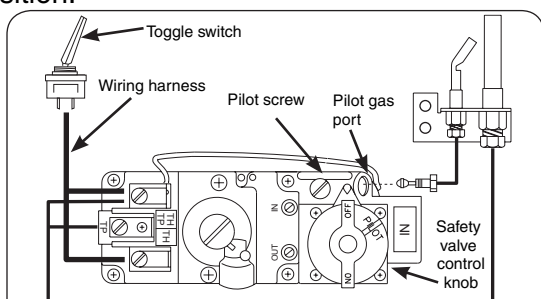

Fig. 19-1
To read the safety valve control knob (Fig. 19-1), read the marking nearest the teardrop-shaped metal pointer.
- b. If adjustment is necessary (Fig. 19-1), turn the gas adjustment screw counterclockwise ↺ to increase the pilot flame, or clockwise ↻ to decrease the pilot flame.